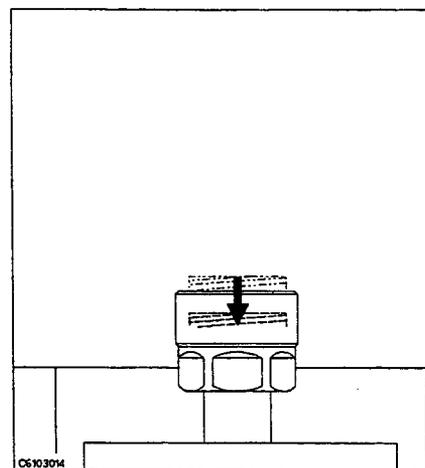

Figure 4-13.
2. Verify that the connector sleeve is retracted fully as shown in Figure 4-13.